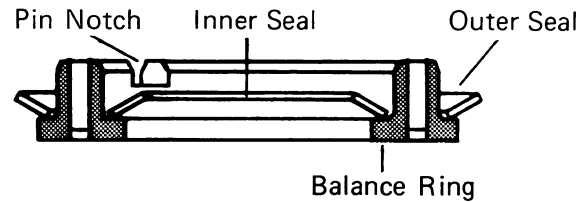

Figure 15
**37** Apply petroleum jelly to inner and outer face seals. Install seals on balance ring as shown in Fig. 15.
**Important:** Install face seals in the positions shown in Fig. 15. or the motor will not operate properly. Do not force or bend the face seals. Any damage to these seals will affect the operation of the motor.